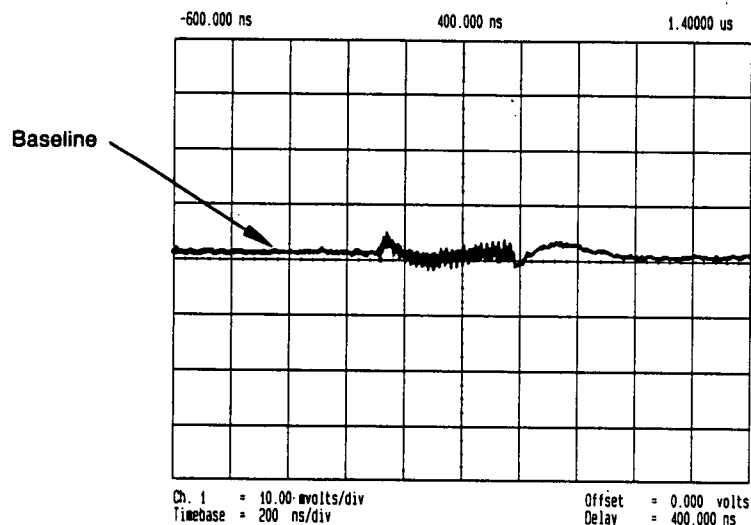

Figure 2-20. Measuring Maximum Voltage from the Baseline Video Feedthrough
16. On the oscilloscope, note the maximum voltage from the baseline (see figure 2-20). Video feedthrough (Vp) = _____ Vp